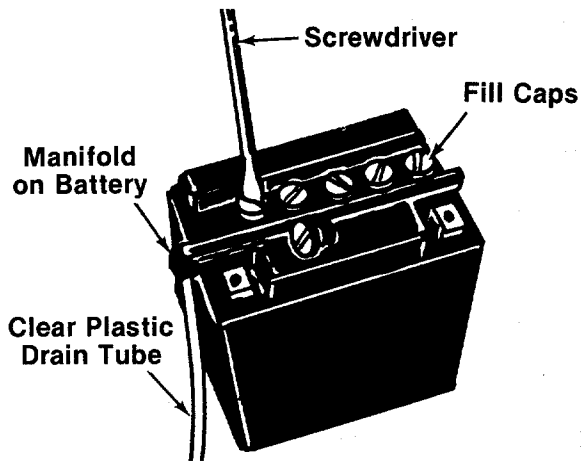

FIGURE 2.
3. Place one end of clear plastic drain tube on manifold of battery. See figure 2.
4. Remove the six fill caps from the top of the battery with a screwdriver. Care should be taken not to damage the fill caps. See figure 2.